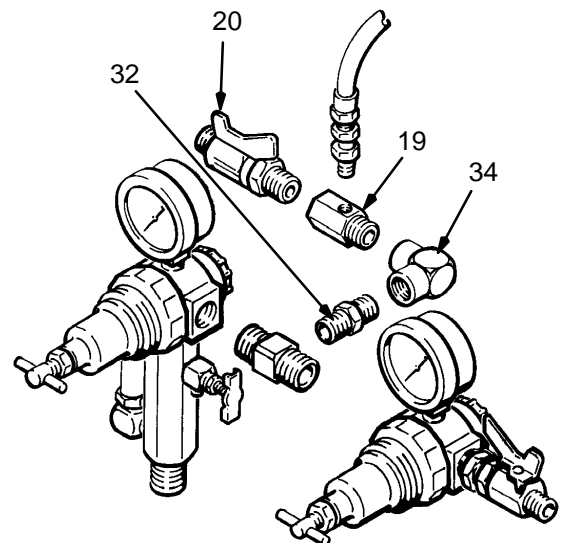

Fig. 5
Turn the elbow back just enough to permit the manifold (19) and the ball valve (20) to be screwed into the elbow (34). See Fig 5. Connect the agitator hose between the agitator motor and the air manifold.